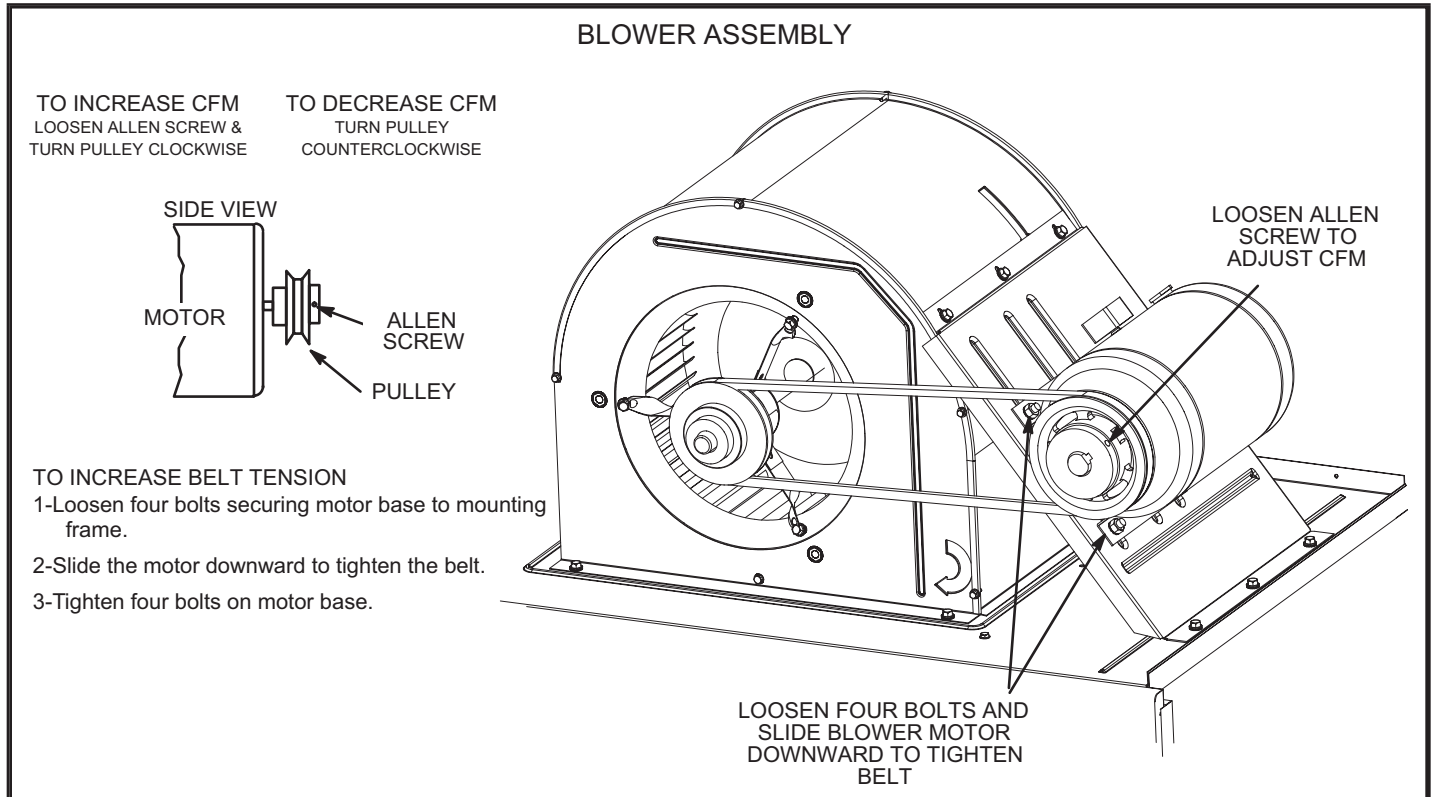

FIGURE 25
- 5 - The blower RPM can be adjusted at the motor pulley. Loosen Allen screw and turn adjustable pulley clockwise to increase CFM. Turn counterclockwise to decrease CFM. See FIGURE 25. Do not exceed minimum and maximum number of pulley turns as shown in TABLE 4.
- 1 - Loosen four bolts securing motor base to mounting frame. See FIGURE 25.